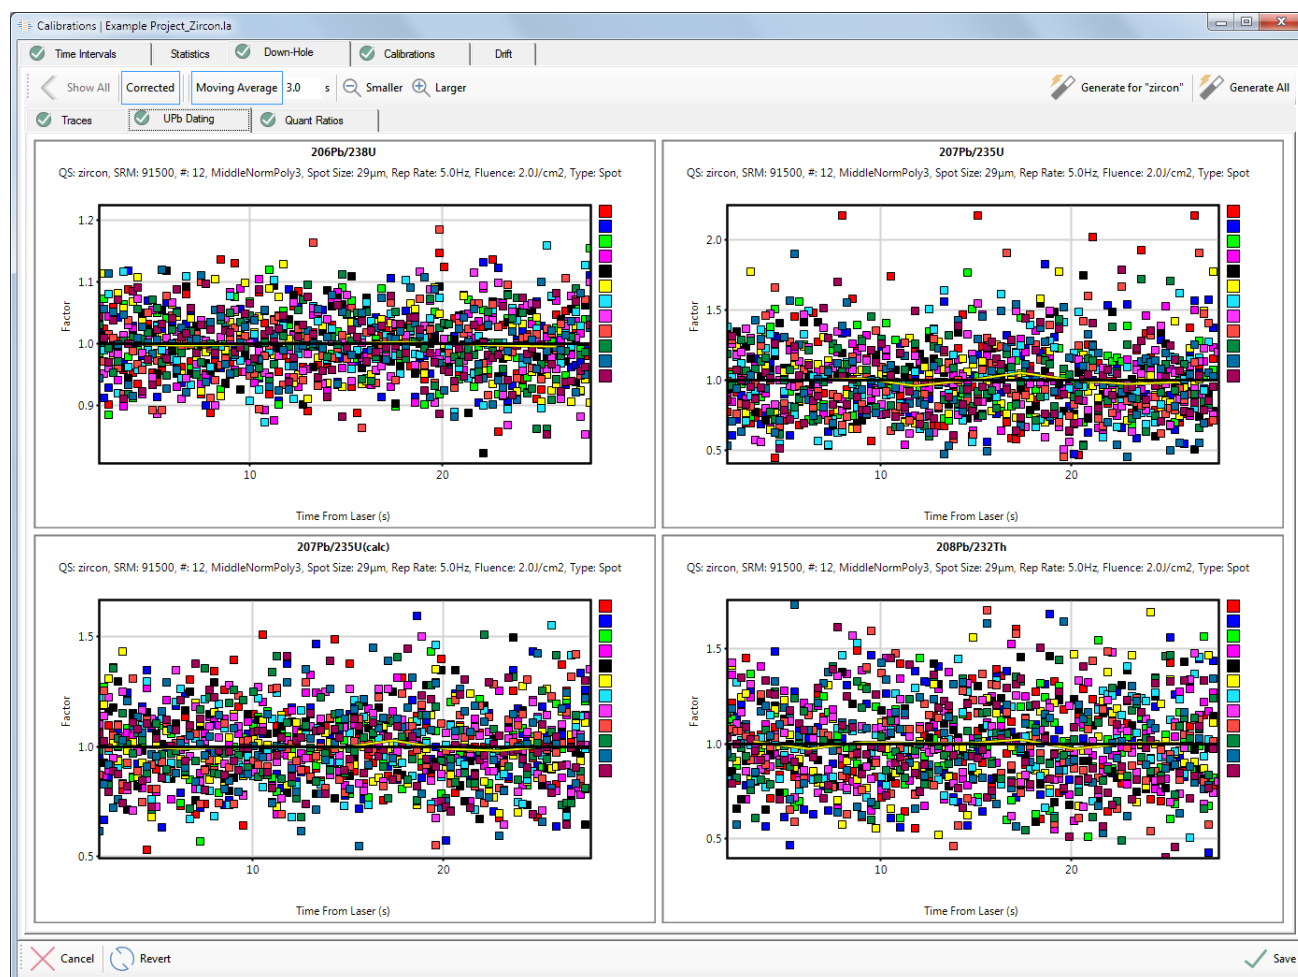

Figure 65 Corrected UPb data for the down-hole fractionation effects.
- Corrected – Show the corrected data, making the down-hole curve equal to 1 throughout the analysis. (Figure 65).